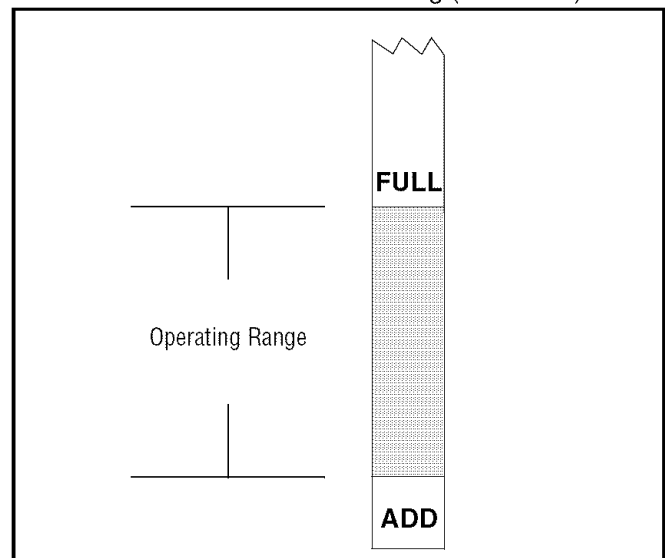

Figure 14
- Wipe the dipstick clean before pushing it back into the oil fill tube. **Do NOT thread the cap back onto the fill tube.** Withdraw the dipstick to check the oil level. Refer to Figure 14.
- Fill the crankcase until the oil level reaches the full (F) mark on the dipstick. Refer to Figure 14. Refer to the viscosity oil chart earlier in this section for information regarding the proper type of oil to add to the crankcase.
- **Slowly** pour oil into the fill tube. Fill the crankcase until the oil level reaches the full (F) mark on the dipstick (Refer to Figure 14).